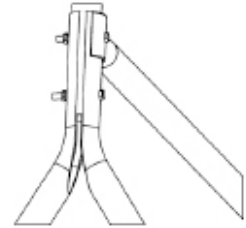

FIGURE 2
4. Secure assemblies together with one cross-member as shown in Figure 2. Place cross-member on front side of assemblies and secure each with a nut and bolt through the top hole in the assemblies. Make certain that both handles are facing away from the cross-member.